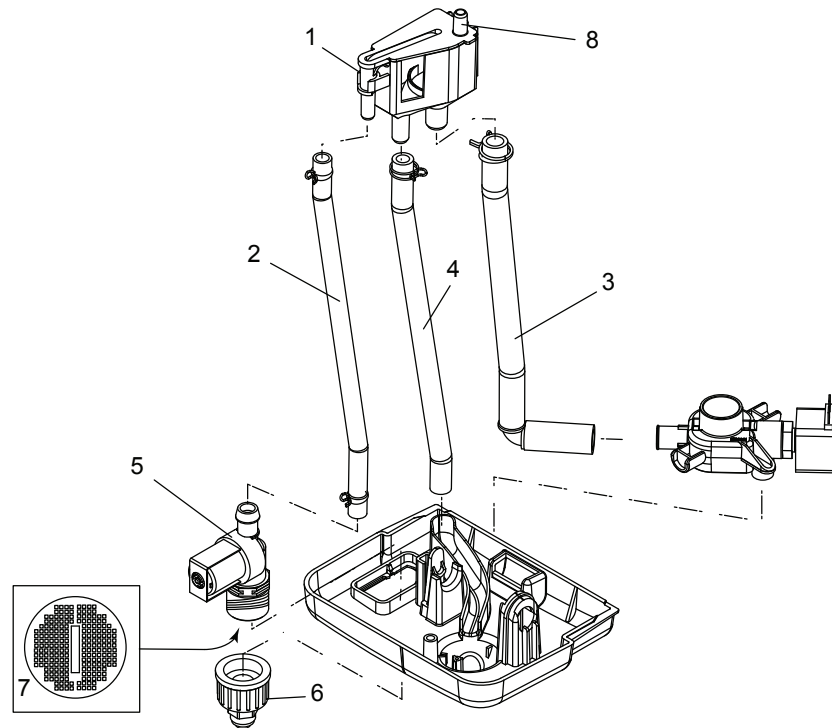

Figure 12 - Internal Plumbing Components
1. (Recommended) Remove hoses and clamps from the fill cup. Refer to Figure 12 on page 27.